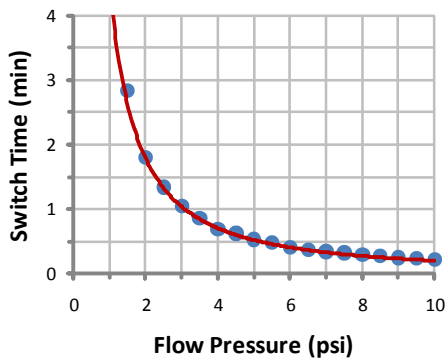

Figure 9 Flow Switching
- Place assembly on an inverted microscope. The plate frame will fit to any standard 96 well plate holder. Focus on the center of the "imaging" well (4). The cells will be adhered to the #1.5 thickness (170  $\mu$ m) glass coverslide, which forms the bottom surface of the culture unit.
- Use the ONIX FG computer program to schedule flows to the cells. Flow rates are given in Figures 9 and 10. The switch time is defined as the time to completely refresh the chamber medium volume. It will take about 2-3 minutes to flush out the residual PBS in the upstream channels the **first time** a channel is used. Except in cases where rapid switching is desired, flow at 2-3 psi is recommended.